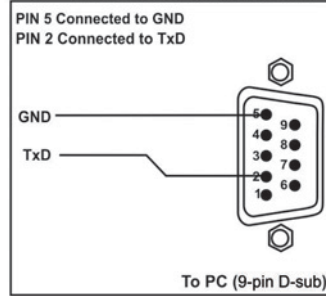

Figure 5: RS-232 PINOUT Connection
- RS-232 cable with a 9-pin D-sub connector to the laptop, and a 2-pin terminal block connector to the **TP-123EDID** RS-232 port (as shown in Figure 5).
- The XGA OUT 15-pin HD (F) connector to a display
To control an RS-232 controllable remote device from a PC or RS-232 controller, prepare an RS-232 cable with a 9-pin D-sub connector at one end, and a 2-pin terminal block connector at the other end, as shown in Figure 5.
- An RS-232 cable with a 9-pin D-sub connector to the laptop, and a 3-pin terminal block connector to the **TP-125EDID** RS-232 port (as shown in Figure 5)
- The UXGA OUT 15-pin HD (F) connector to the AV display system